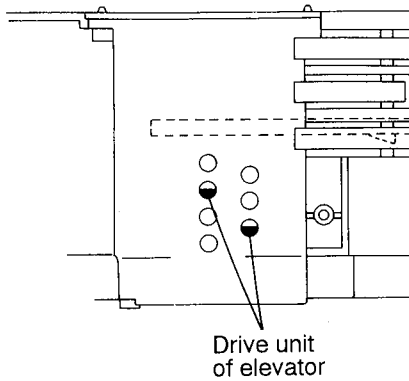
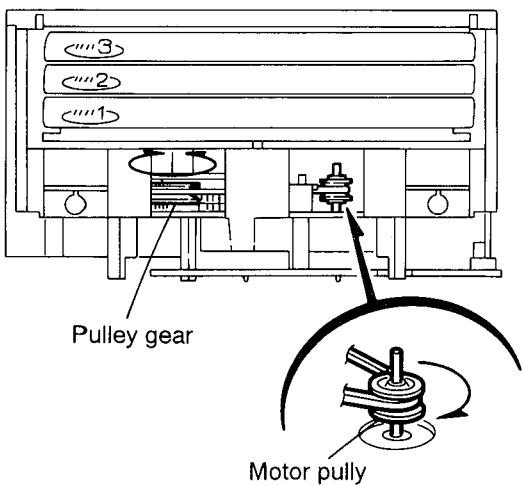

Fig. 2-16a
Fig. 2-17
11. Make sure that the driver unit elevator is positioned as shown in Fig. 2-16a from to the second or fifth hole on the left side face of the CD changer mechanism.
- [Caution]** In case the driver unit elevator is not at the above position, set the elevator to the position as shown in Fig. 2-16a by manually turning the pulley gear as shown in Fig. 2-17.